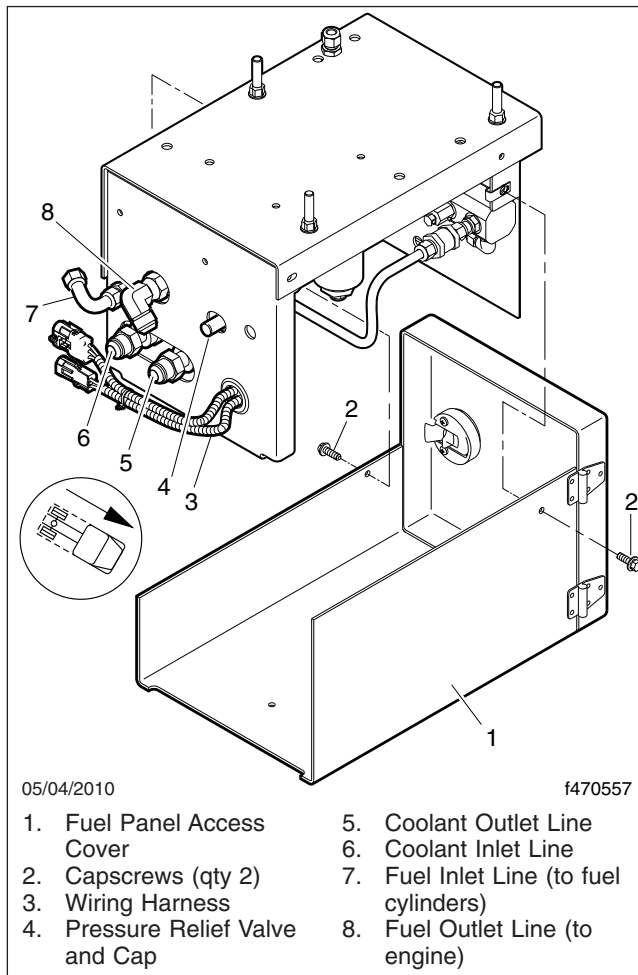

Fig. 14, CNG Fuel Panel Assembly
5. Remove the two capscrews that secure the access cover to the fill panel, then remove the access cover. See Fig. 14. Save the capscrews for reinstallation.